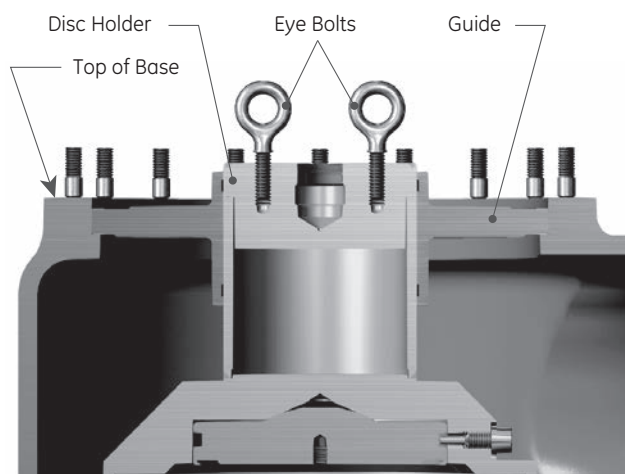

Figure 28: Disc Holder Removal Tool (V & W)
On “V” and “W” orifice valves thread two 5/8-11 NC Standard Eye Bolts into the top of the Disc Holder as shown in Figure 28. Lift out and remove the Guide and Disc Holder. Remove the Eye Bolts from the top of the Disc Holder.
- Start inserting special drift pins into the holes in the disc holder (Figure 28) with the tapered portion of the pins working against the top of the disc, as indicated. See Figure 93 and Table 21 in the Maintenance Tools and Supplies section for drift pin size.